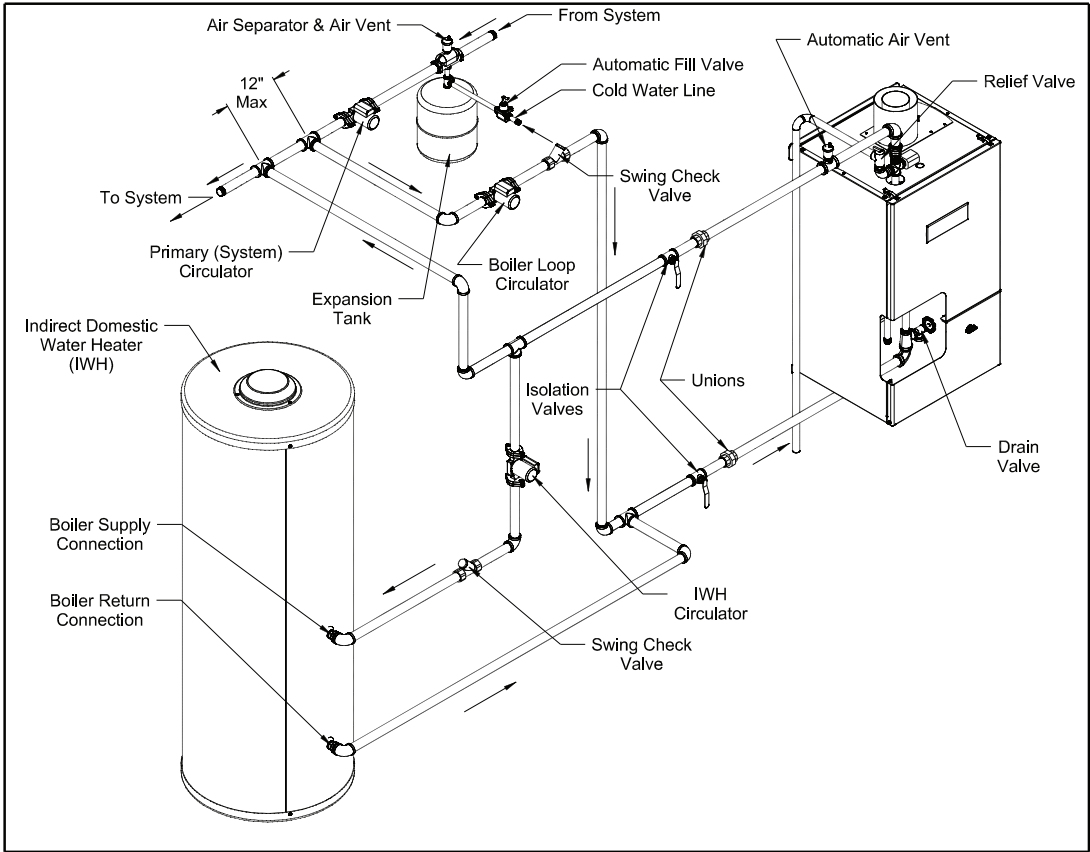

Figure 9.3: Piping Method #1 - Heat + Indirect Water Heater
This method can be used in heat-only applications as shown in Figure 9.2 or with an indirect water heater as shown in Figure 9.3. This method relies on primary/secondary pumping to ensure that the required flow is always maintained through the boiler. In this system, the flow rate through the boiler is completely independent of the flow rate through the heating system. Use the following guidelines to ensure that the boiler will have the required flow shown in Table 9.1 regardless of the flow in the heating system.
*Example – Assume that a BWC120 is to be installed in a heating system along with a Crown MS-40 indirect water heater. A total of 15 ft of straight pipe will be installed between the boiler and the primary loop. A total of 20 ft of straight pipe will be installed between the boiler and the indirect water heater. Fittings are arranged as shown in Figure 9.3. A 9.0 GPM flow is required in the boiler loop. The MS-40 requires a flow rate of 8 GPM and has a head loss of 3.0 ft.*